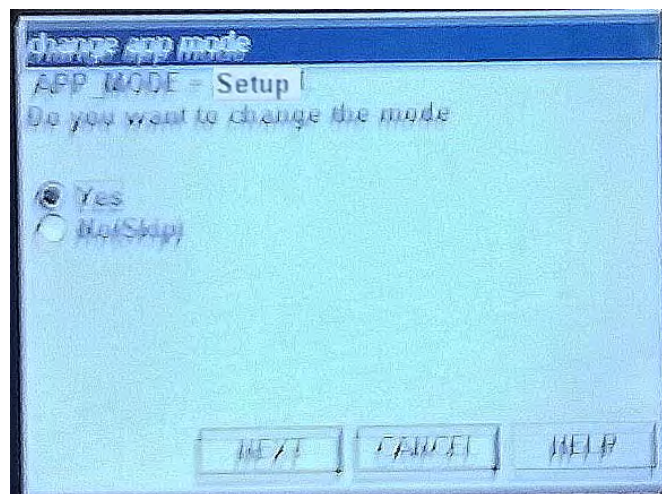

Figure 102 App Mode Before Changing
5. Select **change app mode** and the *Block Mode Target* screen appears (Figure 102).